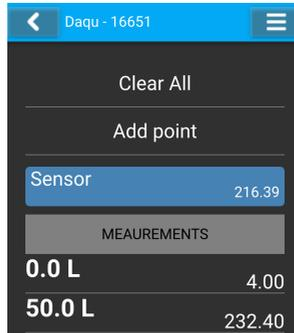

Figure 24: Tank editing window illustration.
7. In Kanja app, select Daqu/miniDaqu from the list of devices and then select **Tank** and then **Tank 1**. This shall open a page similar to Figure 24. There may be some measurement points listed.